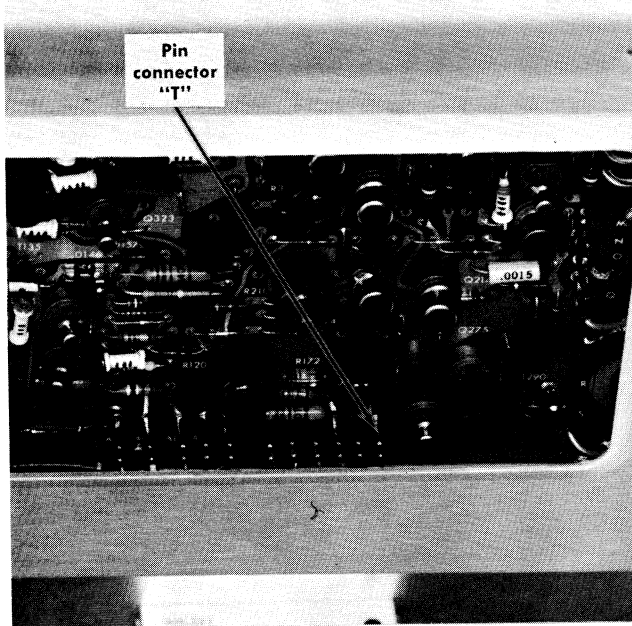

Fig. 5-9. Test point for checking trigger holdoff waveform.
- b. Connect the test probe to pin connector "T" on the Fast-Ramp etched-wiring board (see Fig. 5-9).